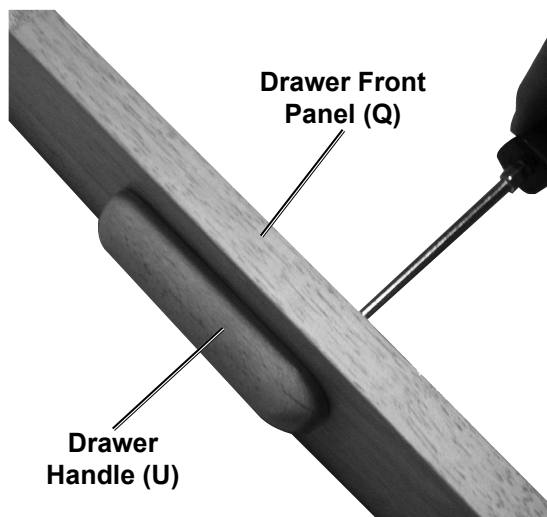

Figure 13
17. Use the Drawer Bolts (L) to fasten the Drawer Handles (U) to the Drawer Front Panels (Q). See Figure 13, below.